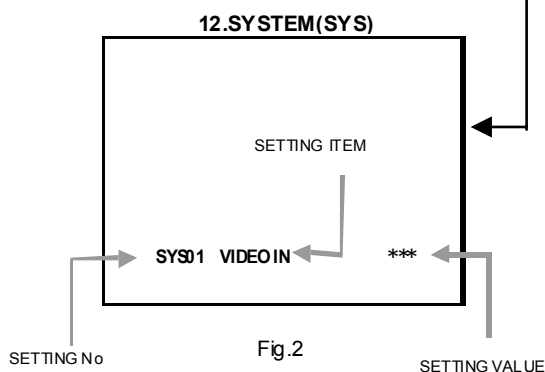

Fig.2
- 4) While the SERVICE MENU is displayed, select the SYSTEM(SYS) item with MENU ▼/▲ (CH-/+) keys, and the MENU ◀/▶ (VOL-/+) keys is pressed, the screen will be displayed as shown in Fig.2.